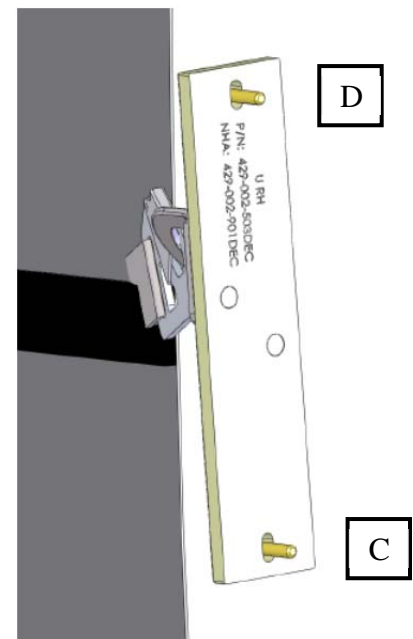

Figure 7.5.1
- 7.5** Continue with the upper right hand (**U RH**) bracket assembly. Install the liner screw at location '**D**' through the top slot of the bracket until it is hand tight and will assist in holding the bracket out of the way while the second screw at location '**C**' is installed. Torque all screws to 18-22 in-lbs each. See Figure 7.5.1.